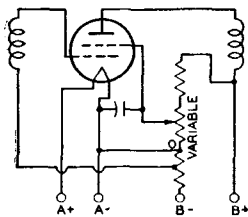

Fig. 82
The positive voltage for the screen grid (grid No.2) of screen-grid tubes may be obtained from a tap on a voltage divider, from a potentiometer, or from a series resistor connected to a high-voltage source, depending on the particular tube type and its application. The screen-grid voltage for tetrodes should be obtained from a voltage divider or a potentiometer rather than through a series resistor from a high-voltage source because of the characteristic screen-grid current variations of tetrodes. Fig. 82 shows a tetrode with its screen-grid voltage obtained from a potentiometer.
**Screen-grid voltage variation** for the rf amplifier stages has sometimes been used for volume control in older-type receivers. Reduced screen-grid voltage lowers the transconductance of the tube and results in reduced gain per stage. The voltage variation is obtained by means of a potentiometer shunted across the screen-grid voltage supply. (See Fig. 82.) When the screen-grid voltage is varied, it must never exceed the rating of the tube. This requirement can be met by providing a fixed stop on the potentiometer.